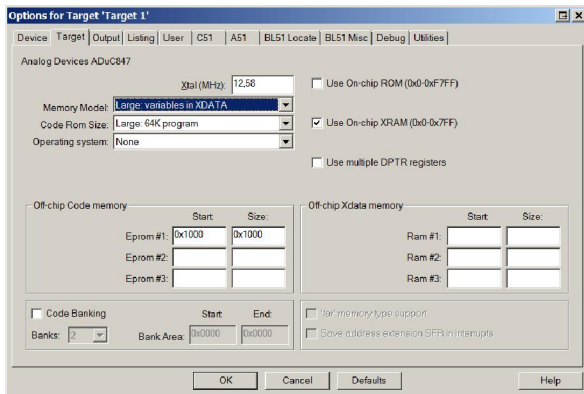

Figuur 4 - Select Device target
4. “Select Device for Target ‘Target 1’...”. Zie Figuur 4.